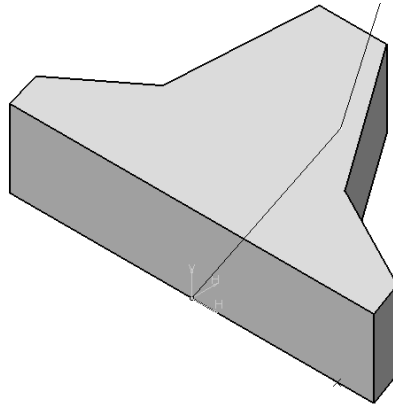

Figure 6-79 Model after creating the base feature
10. Choose the **OK** button from the **Pad Definition** dialog box to complete the feature creation. The model, after creating the base feature, is shown in Figure 6-79.